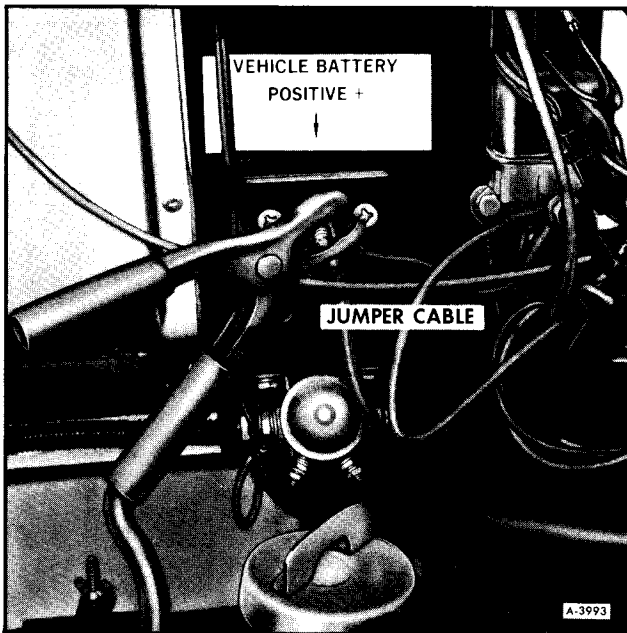

Figure 14—Connecting Jumper Cable to "Vehicle Battery Positive" Stud
3. Attach one end of a jumper cable to the positive terminal (identified by a red color, "+", or "P" on the battery case, post, or clamp), of the battery in the other vehicle and the other end of the same cable to positive terminal junction block stud, marked "VEHICLE BATTERY POSITIVE". This is located behind the right access door above the main (automotive) battery as shown in Figure 14.